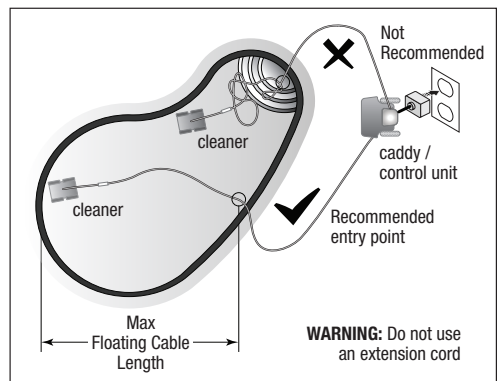

Figure 6. Pool Entry Point for Optimal Patterning
4. Place only enough floating cable in the water to reach the farthest end of your pool from the central point. Spread out the floating cable ensuring there are no kinks or coils in the cable (Figure 6).